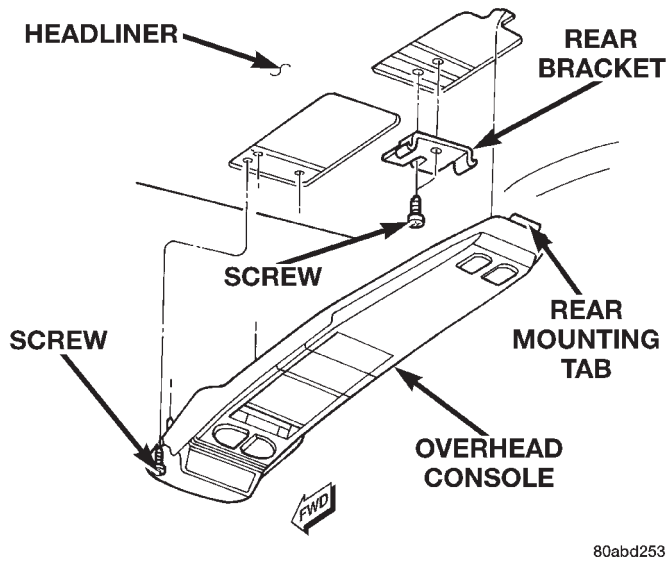

Fig. 3 Overhead Console Remove/Install
(1) Disconnect and isolate the battery negative cable.
(2) Remove the two screws located forward of the display module that secure the overhead console to the upper windshield opening reinforcement (Fig. 3).
(3) To release the overhead console from the rear mounting bracket, use your fingertips to gently pull the sides of the overhead console housing outward near the rear mounting bracket.
(4) Move the overhead console forward to disengage the rear mounting tab from the headliner.